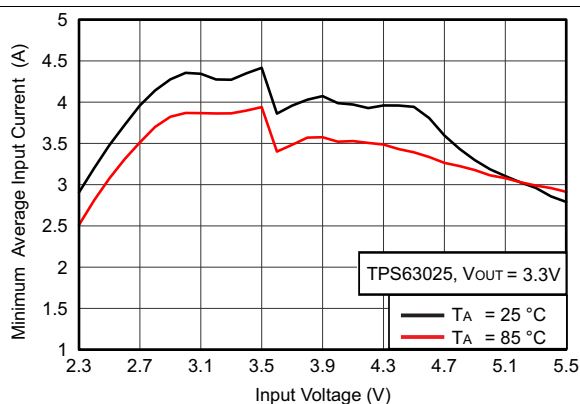

Figure 1. Minimum Average Input Current vs Input Voltage
(1) For minimum and maximum output current in a specific working point see Figure 1 and Equation 1 through Equation 4.
(2) Conditions: $L=1\ \mu\text{H}$, $C_{OUT}=2 \times 22\ \mu\text{F}$.
(3) For variation of this parameter with Input voltage and temperature see Figure 1.
Given the curves provided in Figure 1, it is possible to calculate the output current reached in boost mode, using Equation 1 and Equation 2 and in buck mode using Equation 3 and Equation 4.
I_{IN} = Minimum average input current (Figure 1)